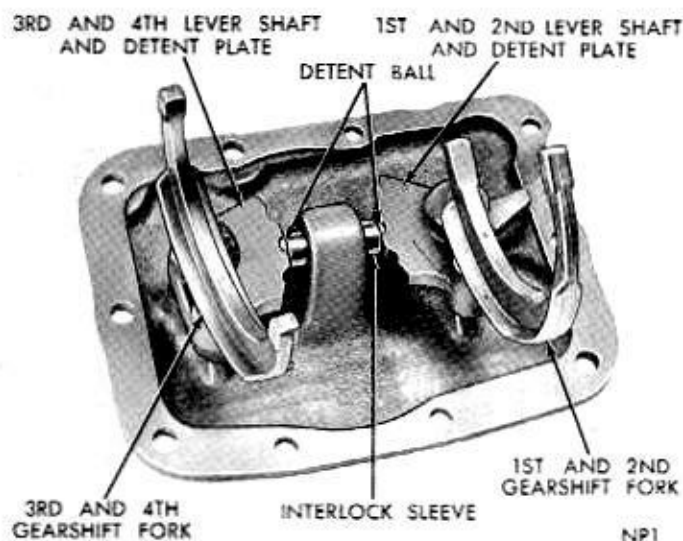

Fig. 16—Shift Housing Assembly
(1) Remove reverse shift lever from shaft. Remove bolts that attach gearshift housing to transmission case (Fig. 16). With levers in neutral detent position, pull housing out and away from the case. (The first and second, third and fourth shift fork may remain in engagement with synchronizer sleeves.) Work forks out of sleeves and remove from the case. **The following three steps need only be done, if oil leakage is visible around gearshift lever shafts.**
(2) Remove nuts, lockwashers and flatwashers that attach first and second, third and fourth speed shift operating levers to the shafts. Disengage levers from flats on shafts and remove.